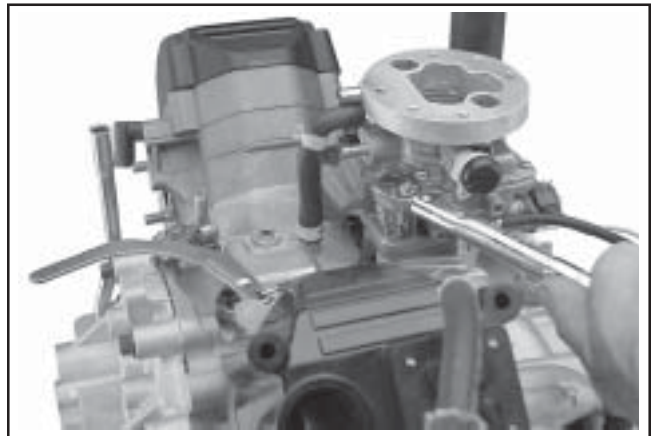

**Figure 11-79. Installing Carburetor Gasket on Intake Manifold.**
2. Install the carburetor gasket on the intake manifold. See Figure 11-79.